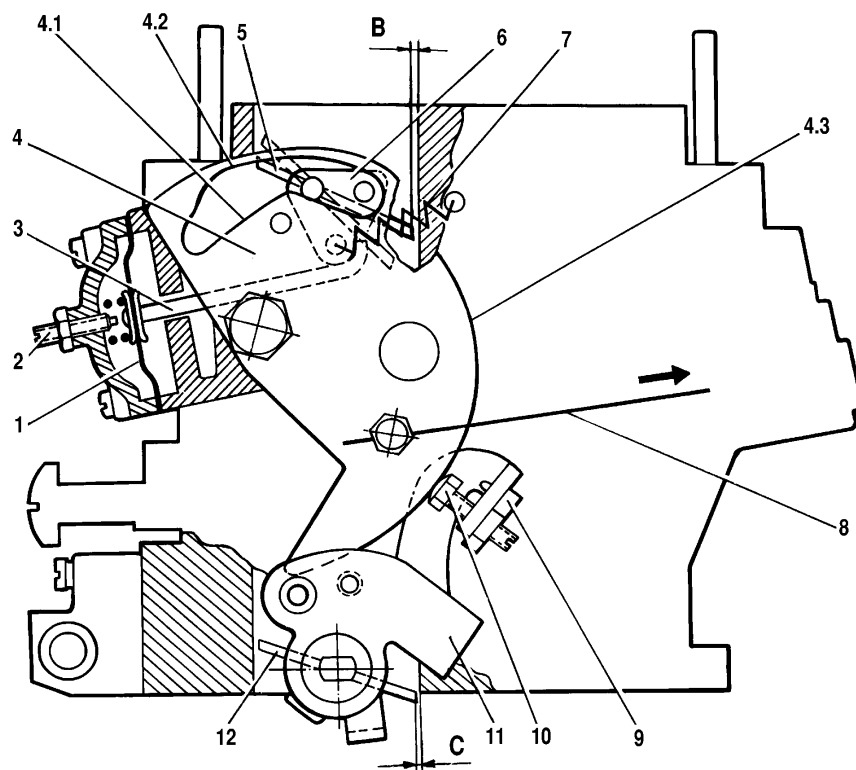

Fig.2-86. Choke pull-down unit:
***Starting clearances are as shown in Fig.2-86
Choke control unit. Choke lever 4 (Fig.2-86) has three profiles. Its outer edge 4.3 operates throttle lever 11 through adjuster screw 10 to start the engine when cold and to further rise the
Choke control unit adjustment. When turning lever 4 (Fig. 2-86) of choke 5 control unit full way anticlockwise, choke must be completely closed by spring 7. If not, remedy the situation.